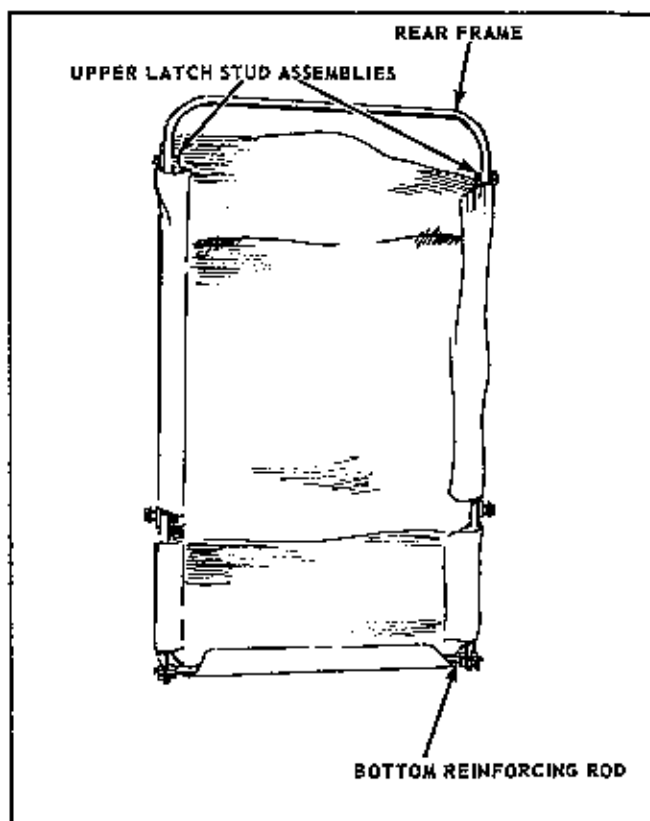

FIGURE 8
G. The rear door is constructed by inserting the rear frame into the slots in the rear canvas. The bottom reinforcing rod is then inserted in the bottom canvas slot, and is secured in position by means of the nuts and washers provided. See Figure 8. The reinforcing strap is positioned over the lower outside portion of the door as shown in Figure 9, and is secured in place with the capscrews, spacers and attaching hardware called out on the exploded view and parts list. Attach the upper latching stud assemblies to the holes provided in the upper part of the door frame as shown in Figure 8, then position the top edge of the canvas over the top of the door frame as shown.